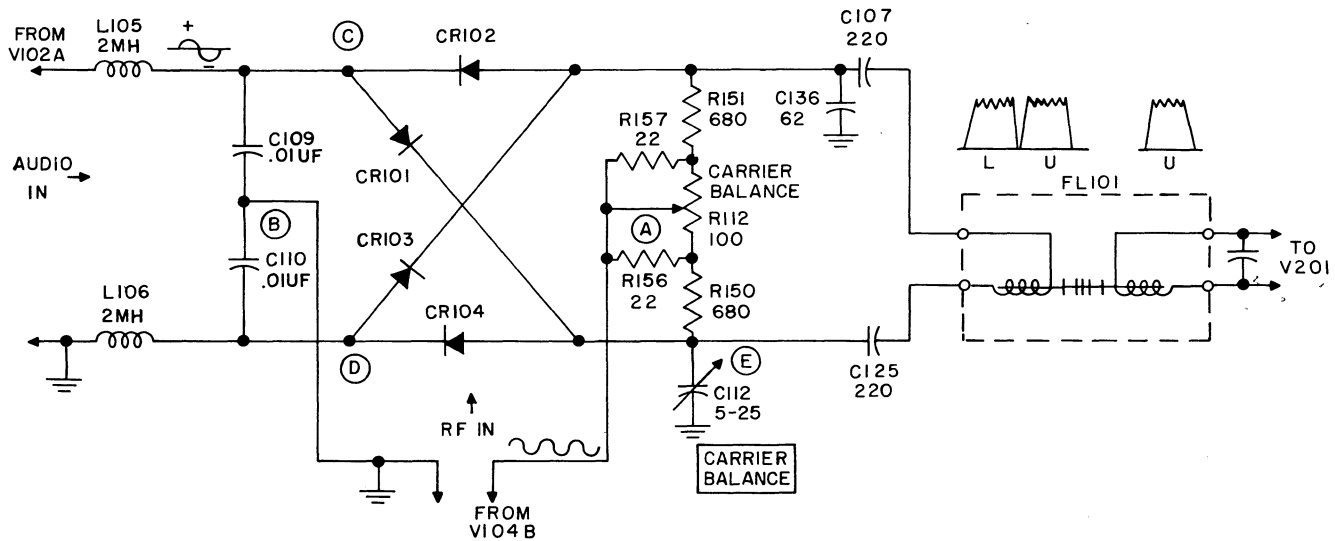
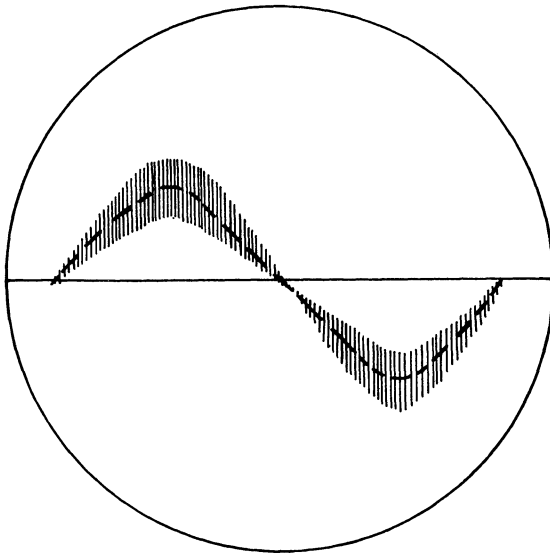

Figure 4-4. Balanced Modulator and FL101 Mechanical Filter, Simplified Schematic Diagram
Figure 4-5. Balanced Modulator Output, Typical Oscilloscope Pattern
(1) LFO. For the development of single sideband signals, the 250-kc output of V104A is coupled through condenser C130 into the grid of the 250-kc amplifier, V104B. The output of V104B is coupled from the cathode through C128 to point (A), and from the ground to point (B) of the balanced modulator, to provide an r-f input to the modulator. (See figure 4-4.)
(2) BALANCED MODULATOR. The balanced modulator is a "ring type" modulator. It receives two signal inputs, the 250-kc carrier signal at points (A) and (B) in figure 4-4, and the audio signal at points (C) and (D). The purpose of the modulator is to suppress the carrier frequency, and to pass only the upper and lower sideband frequencies resulting from modulation by the impressed audio. As shown by the component values, the modulator is a low impedance unit with two points of "balance" adjustment at points (A) and (E) in figure 4-4. R112 is adjusted for voltage balance, and C112 for capacity balance of the 250-kc r-f voltages applied.
Although the ring is balanced insofar as the r-f carrier voltage is concerned, the audio input essentially "modulates" the carrier by causing unbalance of the ring voltages at an audio rate, relative to the positive and negative alternations of the audio cycles. Thus, on one audio alternation, for example, the CR101 plate is biased positive, causing its impedance to be lowered, while the CR102 cathode is biased positive, causing its impedance to be increased. On the following alternation, the impedance unbalance is the opposite. Thus, the carrier is "modulated" to produce two sidebands, but the carrier is suppressed by the ring balancing action. Assuming a 1000 cps audio note, the modulator output at the input of FL101 would be sideband frequencies of 249 kc and 251 kc, with the 250 kc carrier suppressed. (See figure 4-4.) R112 is adjusted to balance the inherent variations in R150 and R151.
Although figure 4-4 shows the modulator output in a practical "U and L" manner, the actual output waveform, when viewed on an oscilloscope, would be similar to figure 4-5, representing the 249-kc and 251-kc sideband signal plus the audio of the example stated in the preceding paragraph.
Within the filter, a nickel wire in the input transducer coil vibrates mechanically and transmits this energy to the first of a series of nickel alloy discs. The mechanical vibration of the first disc is coupled to succeeding discs by means of nickel-wire coupling elements. Biasing magnets at either end of the filter polarize the filter elements to prevent frequency doubling in much the same manner as biasing magnets in a headphone prevent the phone diaphragm from bending the same direction for both alternations of an a-c cycle. The mechanical vibration of the last disc is coupled to a magnetostriction transducer element identical to the one used at the input of the filter. By a reverse principle of magnetostriction, the mechanical vibrations of the nickel-wire transducer core is converted to electrical impulses. Each of the discs used has a mechanically resonant "Q" exceeding 2000. Six of the discs are overcoupled to produce a mechanically-shaped response curve with a flat top and almost vertical sides. Thus the filter passes a band of frequencies very little wider than the flat top of the selectivity curve. In the case of FL101 Mechanical Filter, this band of frequencies is approximately 3 kc wide and centers on 250 kcs. Figure 4-4 shows a practical example of the FL101 Mechanical Filter output wave containing all the USB frequencies however, on an oscilloscope, the